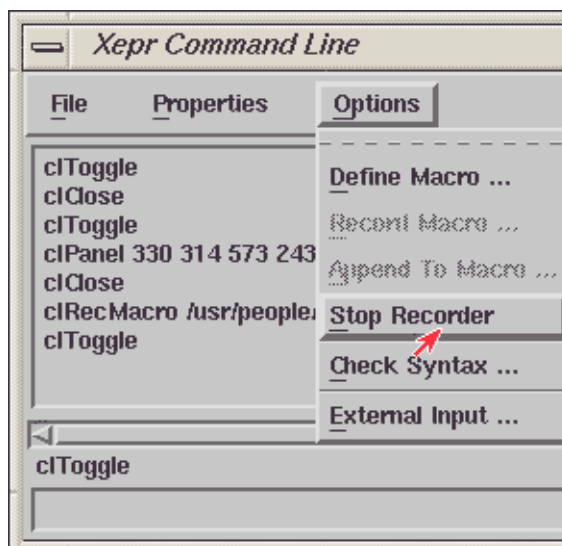

Figure 8-4 Stopping the recording.
7. **Stop recording.** After you have finished your operations, click Options > Stop Recorder. (See Figure 8-4.)